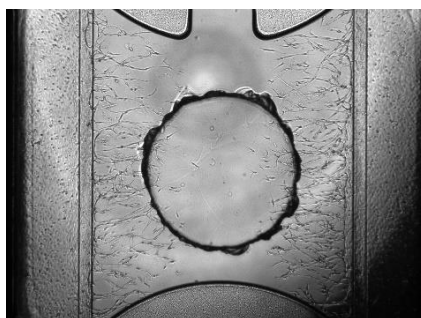

Figure 8: Example of vascular network formation after 3 days of sprouting induction in the OrganoPlate® Graft
- a. For examples of dried out gel, see section *Trouble Shooting*, figure 8.
The angiogenic potential of endothelial vessels grown in OrganoPlate® Graft can vary between endothelial cell sources and media compositions. Usually angiogenic sprouts can reach the glass Graft chamber opening within 3-7 days after sprouting induction. Observe cultures daily to monitor sprouting. An example of a vascular network in the OrganoPlate® Graft is shown in figure 8.